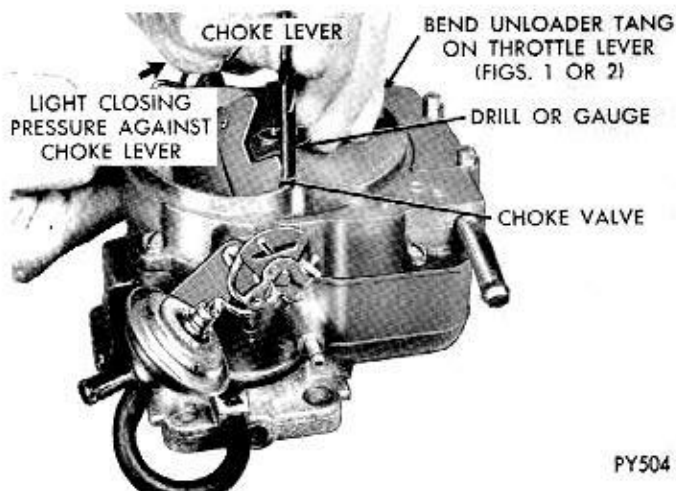

Fig. 14—Checking Choke Unloader Setting
(1) Hold throttle valves in wide open position. Insert specified drill (see Specifications) between upper edge of choke valve and inner wall of air horn. (Fig. 14).